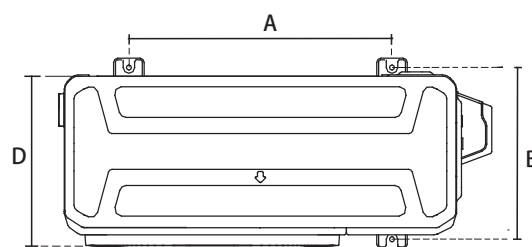

Fig. 6-3
- The minimum distance between the outdoor unit and obstacles described in the installation chart does not mean that the same is applicable to the situation of an airtight room. Leave open two of the three directions. (Refer to Fig. 6-3)